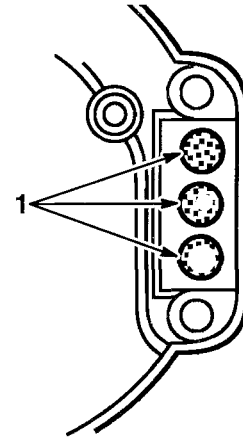

**Figure 35**
5. Remove bolts attaching muffler and crankshaft support (Fig. 35).